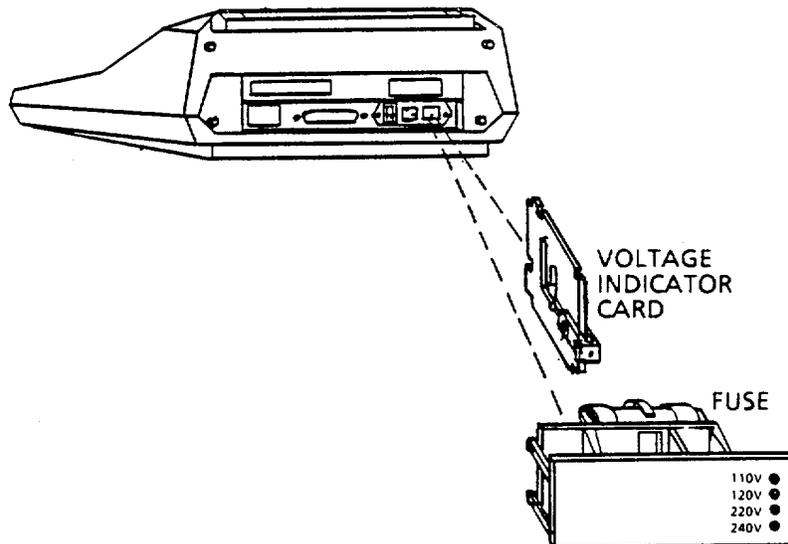

Figure 2-3. Indicator Card Pulled Out
- (1) Raise back panel access door.
- (2) Ensure power switch is in OFF position.
- (3) Locate fuse holder panel on rear of printer.
- (4) With a screwdriver, gently pry fuse holder panel loose and remove.
- (5) Gently remove voltage indicator card from rear of printer by pulling plastic indicator card out. See figure 2-3.